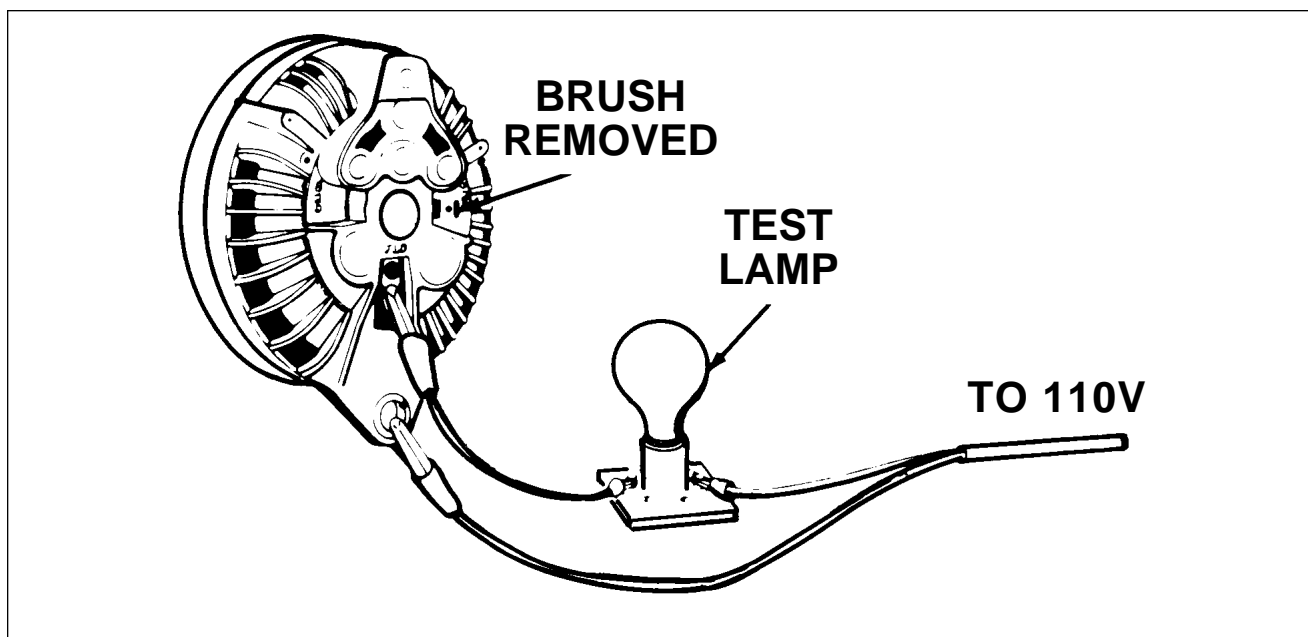

Figure 24-18. Testing Chrysler Alternator Field Current
- a. Remove ground brush and place one test probe of 110-volt test lamp to field terminal. Attach remaining test probe to machined surface at one of the alternator end shields. Test lamp should not light. (Refer to Figure 24-18.)
- (1) Remove insulated brush assembly.
- (2) Remove three through bolts and separate the two end shield assemblies.
- (3) Touch one test lamp probe to one slip ring and remaining test probe to rotor shaft. Lamp should not light. Lighted test lamp indicates a grounded rotor assembly and requires rotor replacement. If test lamp does not light, a ground condition exists in insulated brush assembly. (Brush assembly has either been improperly assembled or was damaged and has short circuited through to ground.) Inspect brush holder and insulated washer. Replace if damaged.